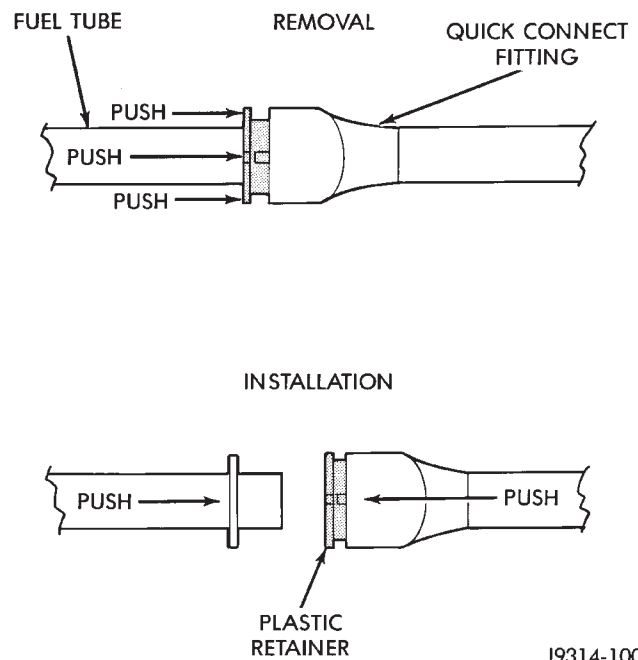

Fig. 19 Plastic Retainer Ring Type Fitting
This type of fitting can be identified by the use of a full-round plastic retainer ring (Fig. 19) usually black in color.
- (1) Perform fuel pressure release procedure. Refer to Fuel Pressure Release Procedure in this section.
- (2) Disconnect negative battery cable from battery.
- (3) Clean fitting of any foreign material before disassembly.
- (4) To release fuel system component from quick-connect fitting, firmly push fitting towards component being serviced while firmly pushing plastic retainer ring into fitting (Fig. 19). With plastic ring depressed, pull fitting from component. **The plastic retainer ring must be pressed squarely into fitting body. If this retainer is cocked during removal, it may be difficult to disconnect fitting. Use an open-end wrench on shoulder of plastic retainer ring to aid in disconnection.**
- (5) After disconnection, plastic retainer ring will remain with quick-connect fitting connector body.
- (6) Inspect fitting connector body, plastic retainer ring and fuel system component for damage. Replace as necessary.
- (7) Prior to connecting quick-connect fitting to component being serviced, check condition of fitting and component. Clean parts with a lint-free cloth. Lubricate with clean engine oil.
- (8) Insert quick-connect fitting into component being serviced until a click is felt.
- (9) Verify a locked condition by firmly pulling on fuel tube and fitting (15-30 lbs.).
- (10) Connect negative battery cable to battery.
- (11) Start engine and check for leaks.